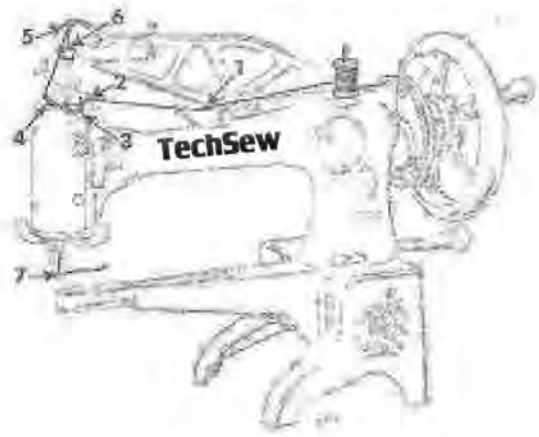

Fig. 19. Threading Needle
1. Place the spool of thread on the spool pin so that thread will draw from the rear side of spool. See Fig. 19.
2. Raise the wire guide in the oil cup on top of the arm and pass thread under guide then press guide back into position. See fig. 19.